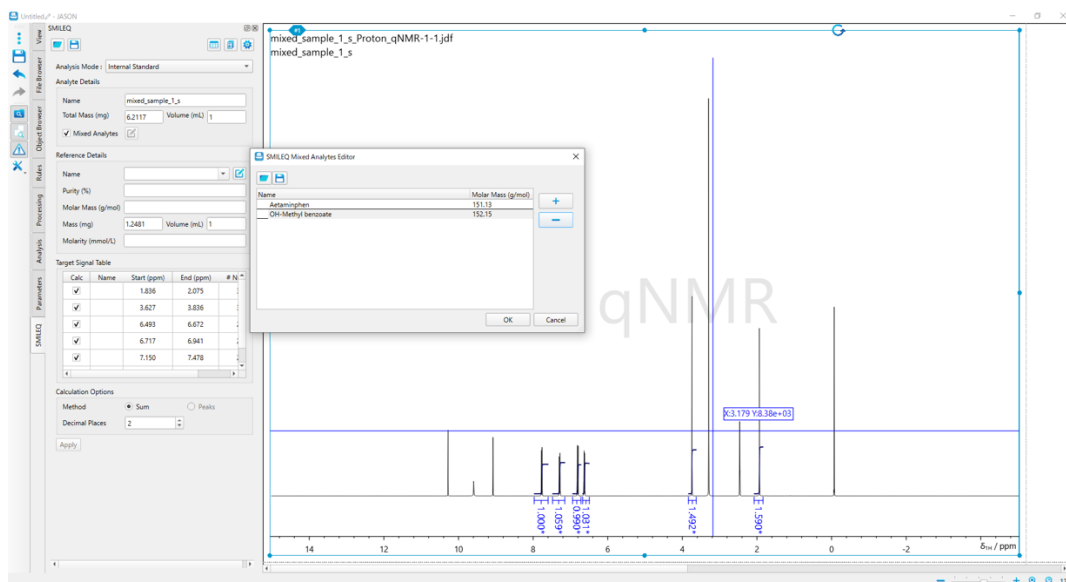

Figure 40 : Mixed Analyte and Mixed Analytes Editor
2. At the SMILEQ widget, Mixed Analytes check box ON and open SMILEQ Mixed Analyte Editor. If you need to add the analyte information, (see section 2.7 Mixed Analytes-Mixed Analyte Editor for details and Figure 40)